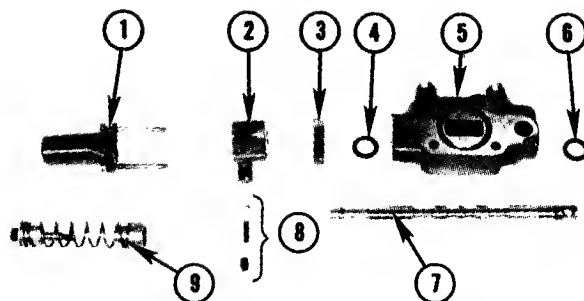
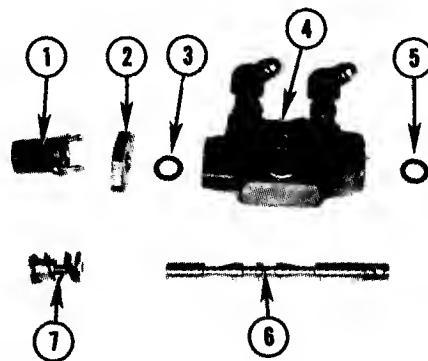

FIG. 5.7--MID MOUNT LIFT VALVE PARTS.
FIG. 5.8--3 POINT HITCH LIFT VALVE PARTS.
VALVE BODY SERVICE: Refer to figure 5.7 for components of the mid-mount lift valve and figure 5.8 for the three-point hitch control valve components. Disassemble and recondition the valve bodies as follows.
3. On mid-mount valve assembly, remove the setscrew from the detent housing and pull the detent assembly parts (item 8, figure 5.7).